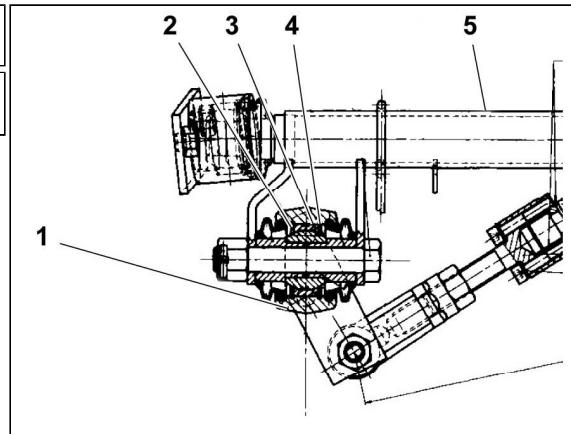

Fig. 3.36 Carrier head - assembly 1
7. Install the assembled shift bearings **5** on ends of shift tubes **1** and **5** (See Fig. 3.36).